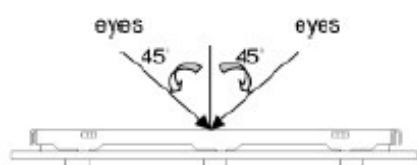

Fig.1
- (1). The test be under 20W×2 fluorescent light ' and distance of view must be at 30 cm.
- (2). Standard of inspection : (Unit : mm)
- (3). The test direction is base on about around 45° of vertical line. (Fig. 1)